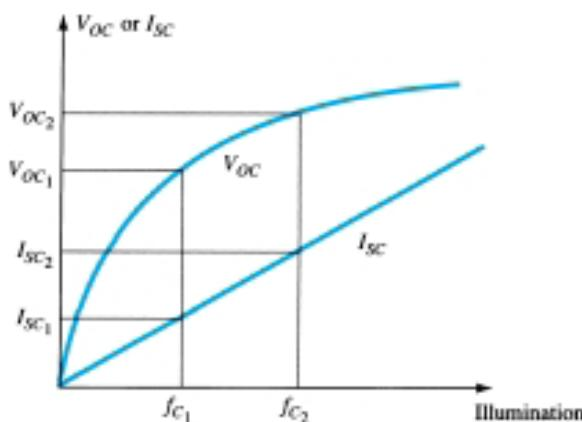

Figure-27 V_{oc} and I_{sc} versus illumination for a solar cell
- This is a logarithmic function of the illumination, as shown in Figure-27. V_{OC} is the terminal voltage of a battery under no-load (open-circuit) conditions.
- Note, however, in the same figure that the short-circuit current is a linear function of the illumination. That is, it will double for the same increase in illumination (fC1 and 2fC1 in Figure-27) while the change in V_{OC} is less for this region.